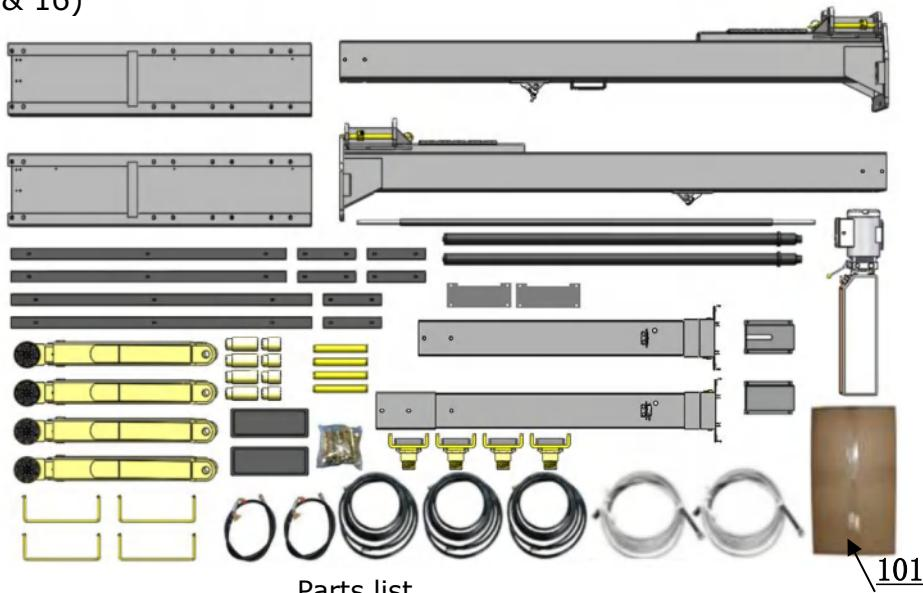

Fig. 15
6. Move aside the parts and check the parts according to the shipment parts lift.(See Fig.15 & 16)